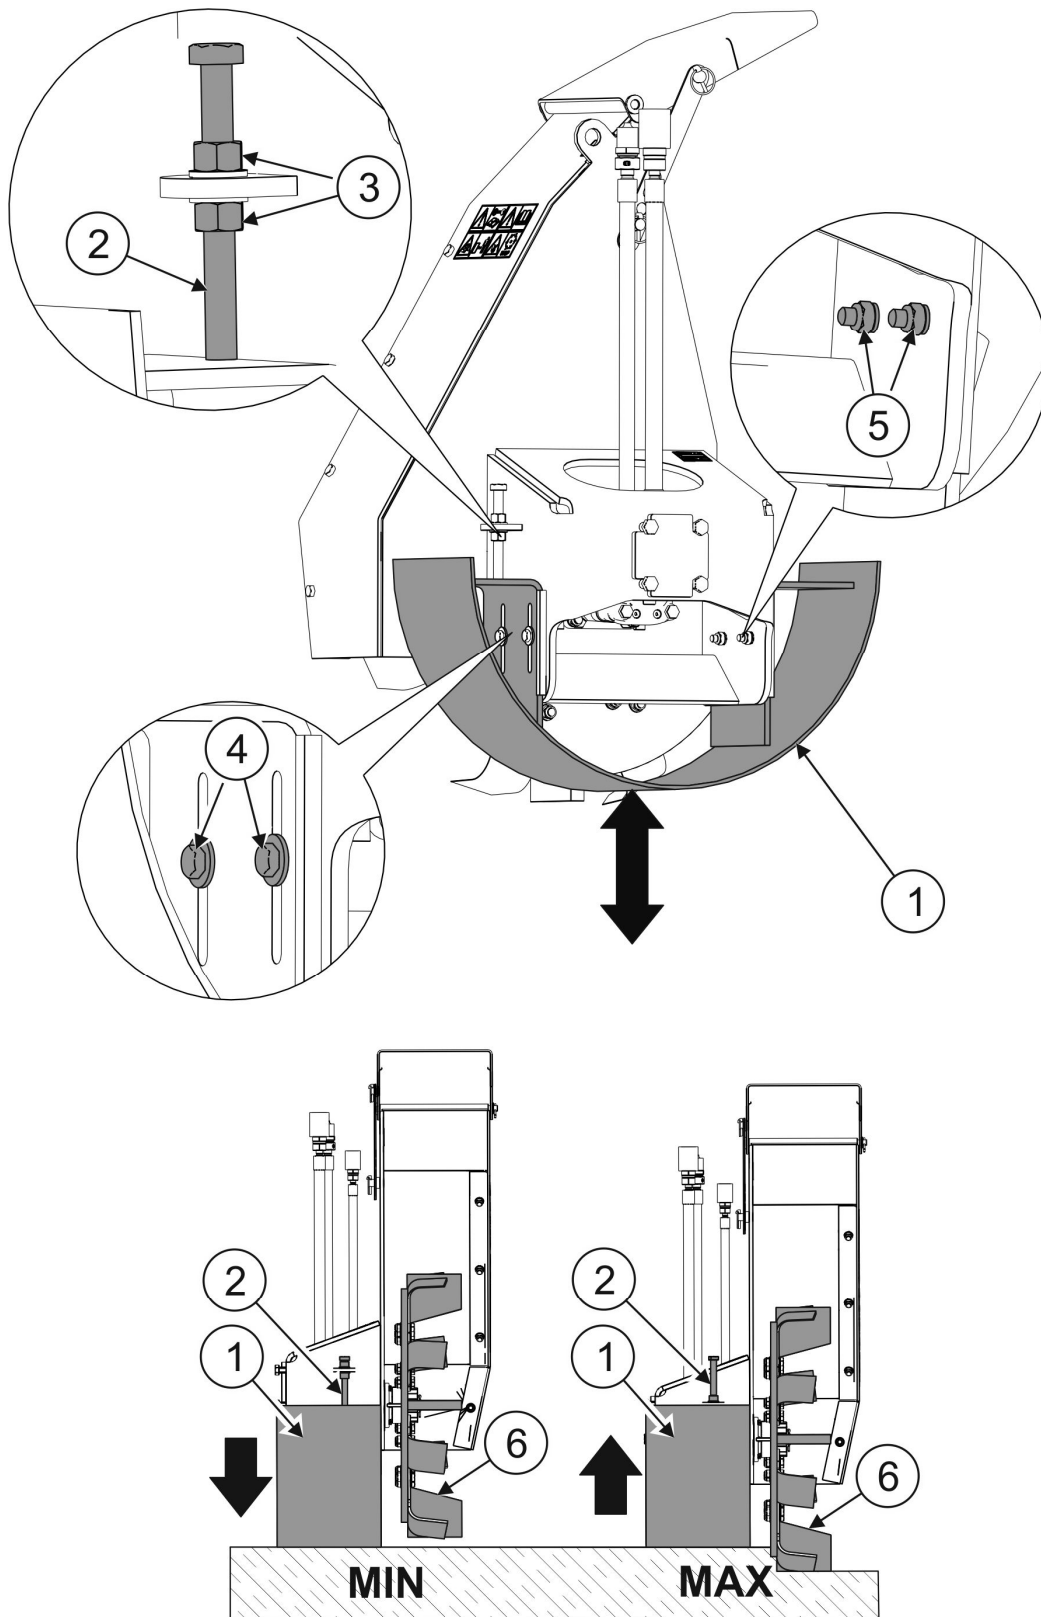

FIGURE 4.5 Set the working depth of the ditch digger head rotor. .
(1) - ditch digger in working position; (2) - multifunction arm.
- the ditch digger should rest freely on the ground on the ground contour following skid. The rotor disc (6) (FIGURE 4.5) should be perpendicular to the ground so that the material is ejected towards the slope of the ditch or beyond the slope of the ditch.
To change the working depth of the rotor change the position of the skid (1) in relation to the rotor disc. In order to do this (FIGURE 4.5):
- loosen the nuts (5) on the four bolts (4) securing the skid to the machine body;
- loosen the nuts (3) of the two bolts (2) fixing the skid at the correct height;
- by screwing the bolts (2) in or out, set the required working depth of the rotor. The bolts should be screwed in or out to the same length;
- tighten fixing nuts (3) of the retaining bolts (2);
- adjust the skid until the upper part of the skid touches the retaining bolts (2);
- tighten the nuts (5) of the bolts (4) securing the skid to the machine body.